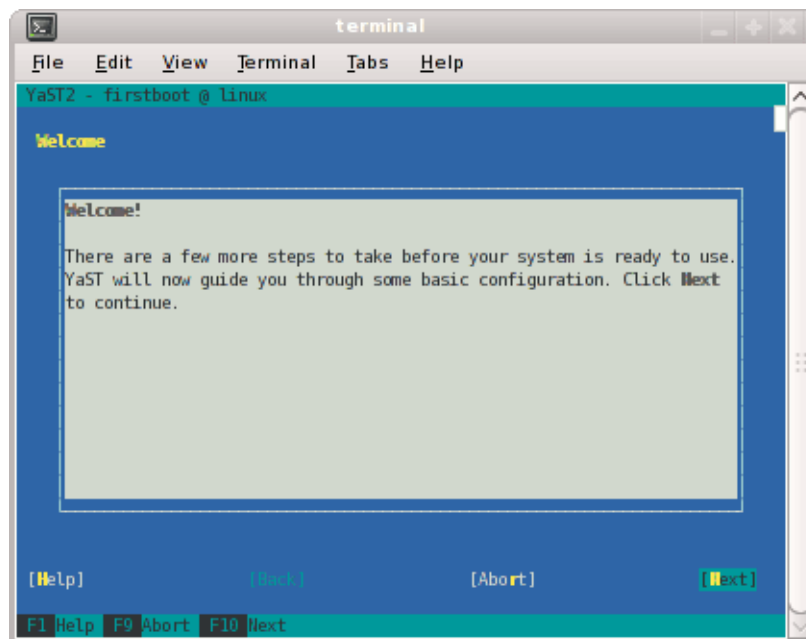

Figure 2-2 YaST2 - firstboot@Linux Welcome Screen
5. After the reboot completes, you will eventually see the **YaST2 - firstboot@Linux Welcome** screen, as shown in Figure 2-2 on page 37. Click on the **Next** button to continue.